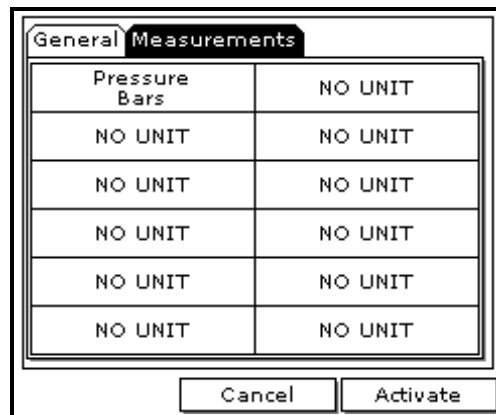

Figure 43: Log Measurements Window
2. Use the arrow keys to move back to the General tab and then move to the Measurements tab and press [ENTER]. A screen similar to Figure 43 appears.